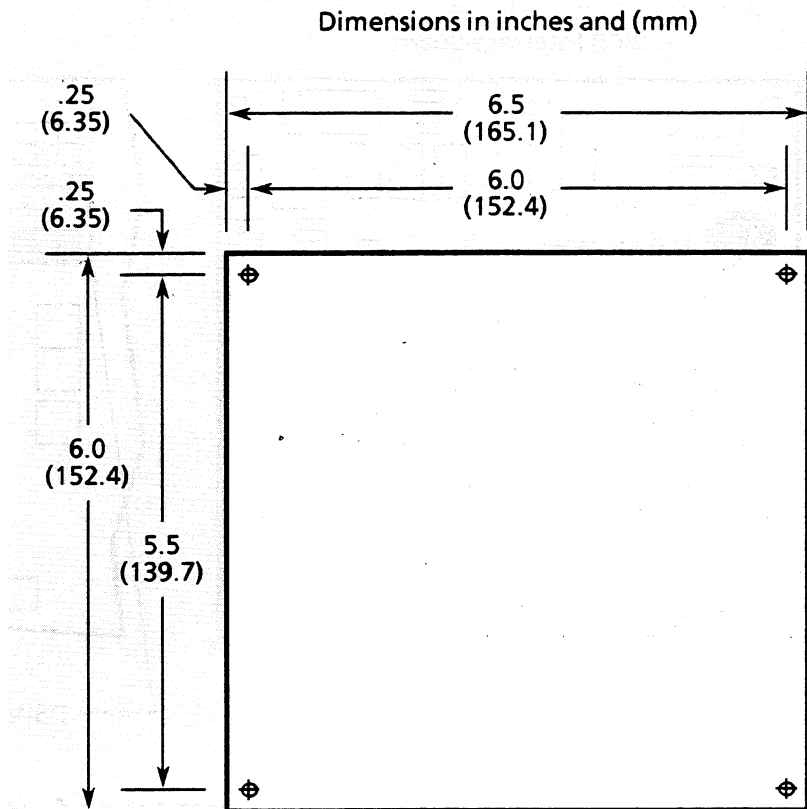

Figure 2 – BCD Interface Board Dimensions
3. Using the dimensions provided in Figure 2, mark the location of the holes to be drilled.